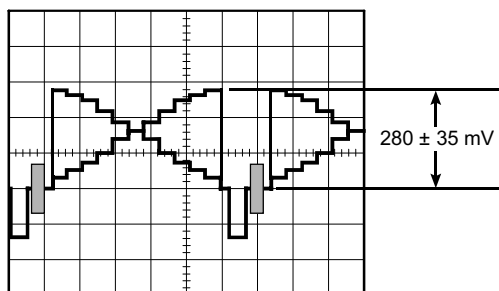

Fig. 4-20
- Confirm that the Video signal level becomes 280 ± 35 mV as shown in Fig. 4-20.